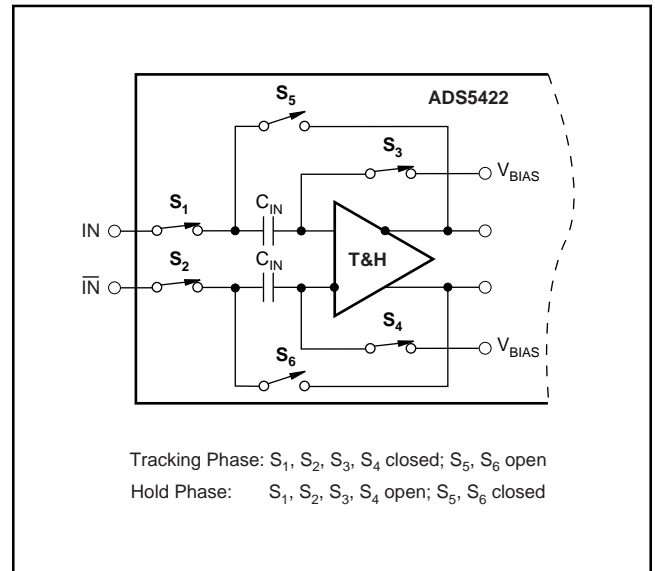
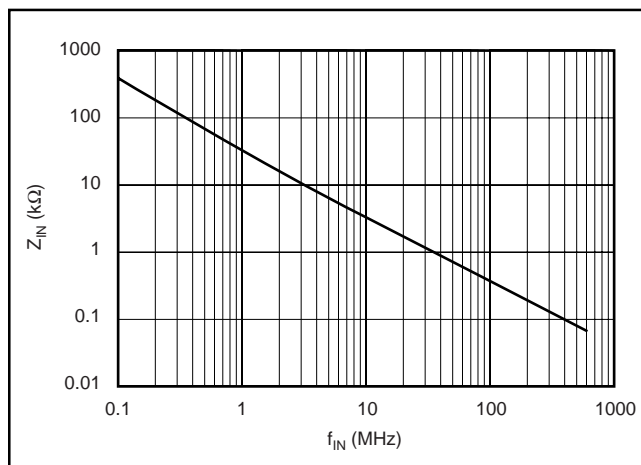

FIGURE 1. Simplified Circuit of Input Track-and-Hold Amplifier.
FIGURE 2. Differential Input Impedance vs Input Frequency.
The analog input of the ADS5422 consists of a differential track-and-hold circuit, as shown in Figure 1. The differential topology produces a high level of AC performance at high sampling rates. It also results in a very high usable input bandwidth—especially important for Intermediate Frequency (IF) or undersampling applications. Both inputs (IN,  $\overline{\text{IN}}$ ) require external biasing up to a common-mode voltage that is typically at the mid-supply level ( $+V_S/2$ ). This is because the on-resistance of the CMOS switches is lowest at this voltage, minimizing the effects of the signal-dependent,
The input of the ADS5422 is capacitive, and the driving source needs to provide the slew current to charge or discharge the input sampling capacitor while the track-and-hold amplifier is in track mode (see Figure 1). This effectively results in a dynamic input impedance that is a function of the sampling frequency. Figure 2 depicts the differential input impedance of the ADS5422 as a function of the input frequency.